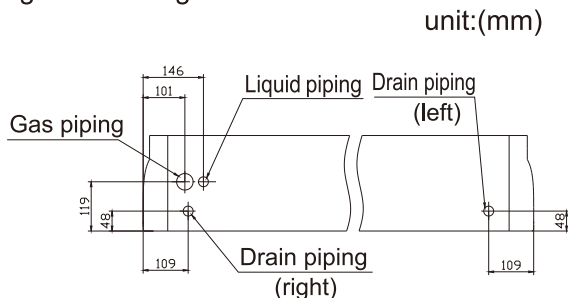

Fig. 4.1 The connection positions of the pipe
- (1) The connection positions of the pipe are shown in Fig. 4.1 and Fig. 4.2.